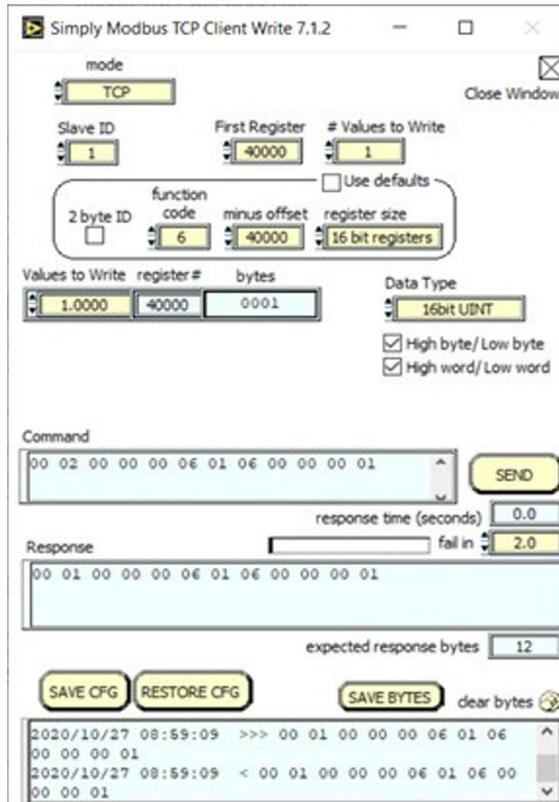

Figure 48.2.
- A new window will appear. See Figure 48.2. In this new window, make sure Mode is set to TCP.